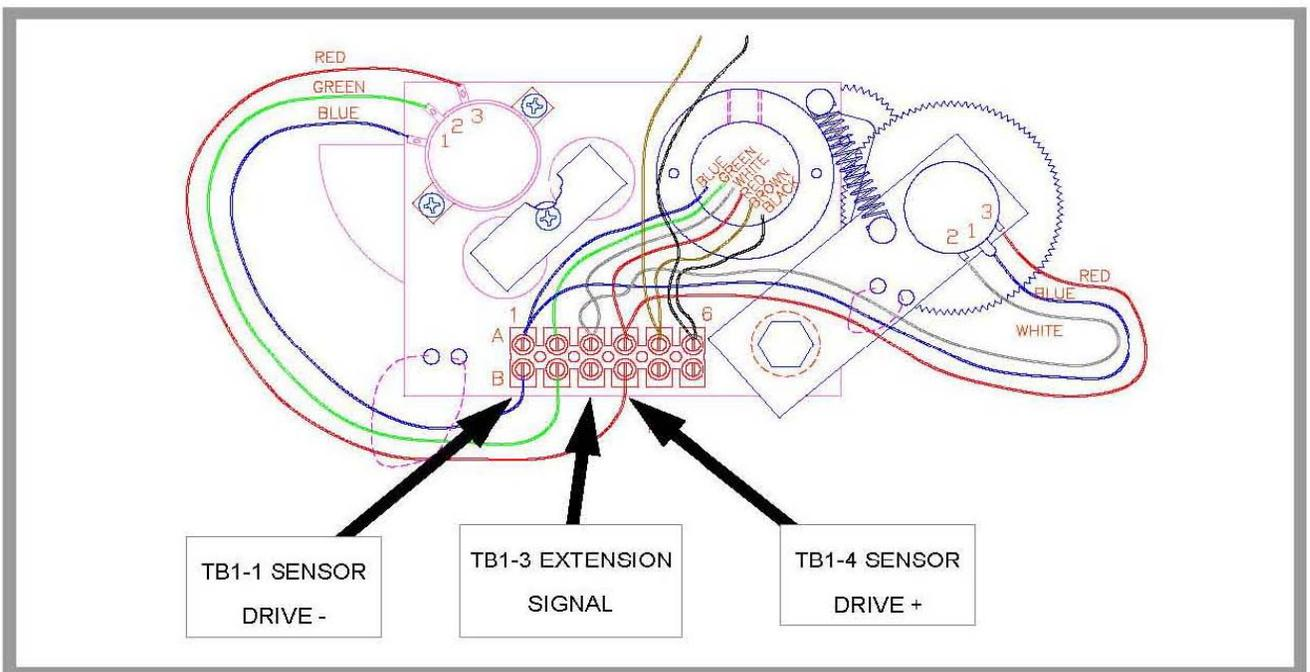

FIGURE 3.8.3 - SENSOR BASEPLATE ASSEMBLY WIRING
5. Measure the voltage between TB1-3 and TB1-1 (Figure. 3.8.3).